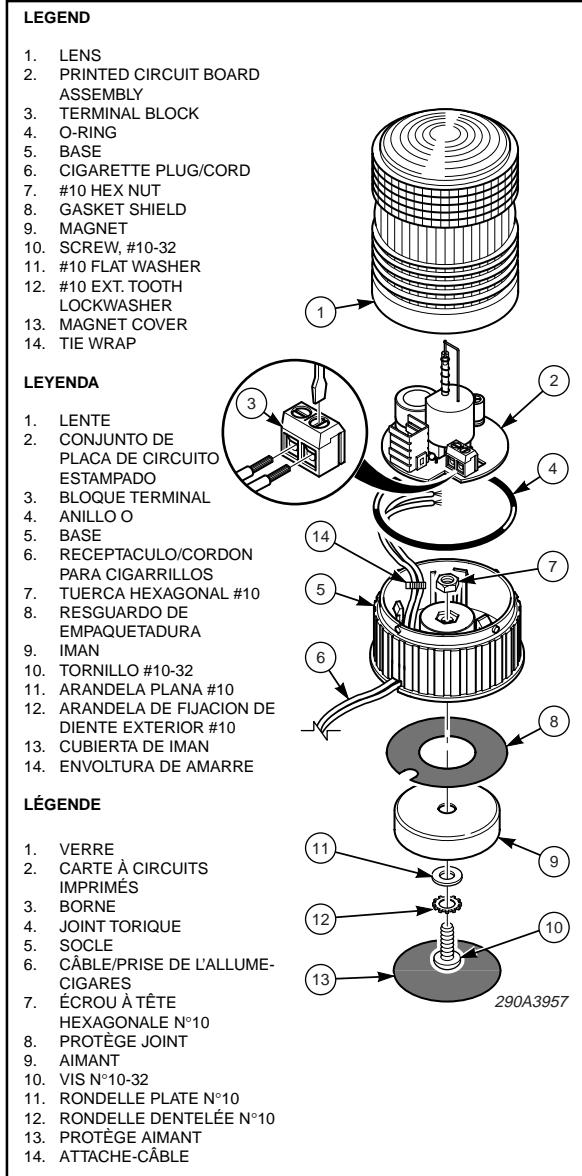

Figure 1. /Figura 1. ./Figure 1.
C. INSTALLATION (Voir figure 1).